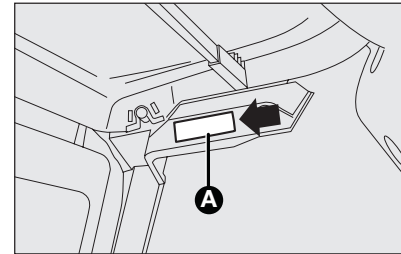

fig. 28
- using the screwdriver provided, extract the ceiling light **A**-fig. 28 working in the specified point.